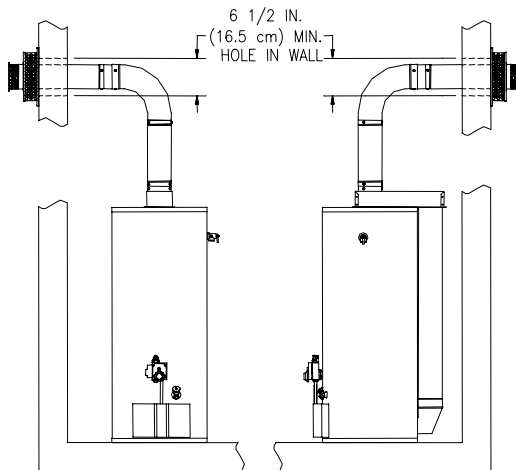

Figure 10
1. Cut a 6-1/2 inch (16.5 cm) diameter minimum clearance hole in the wall at the point where the vent-air intake tubes will pass through the outside wall and connect with the direct vent-air intake terminal. (See Figure 10).